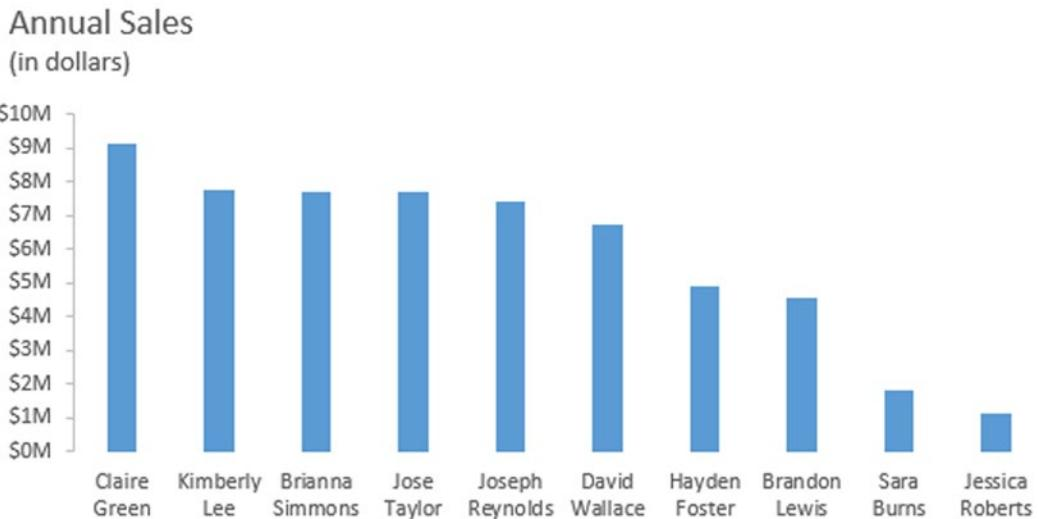

Figure 12-6. When sorted and with other unnecessary data elements removed, the chart becomes much easier to read
3. Finally, you can erase the lines that do not help you for comparison and change some of the layout. Figure 12-6 shows the final result.
Sometimes you don't have the space to show the labels cleanly as I've done in Figure 12-6. Excel will attempt to convince you there's nothing wrong with craning your neck by tilting the labels to uncomfortable angles (see Figures 12-7 and 12-8).